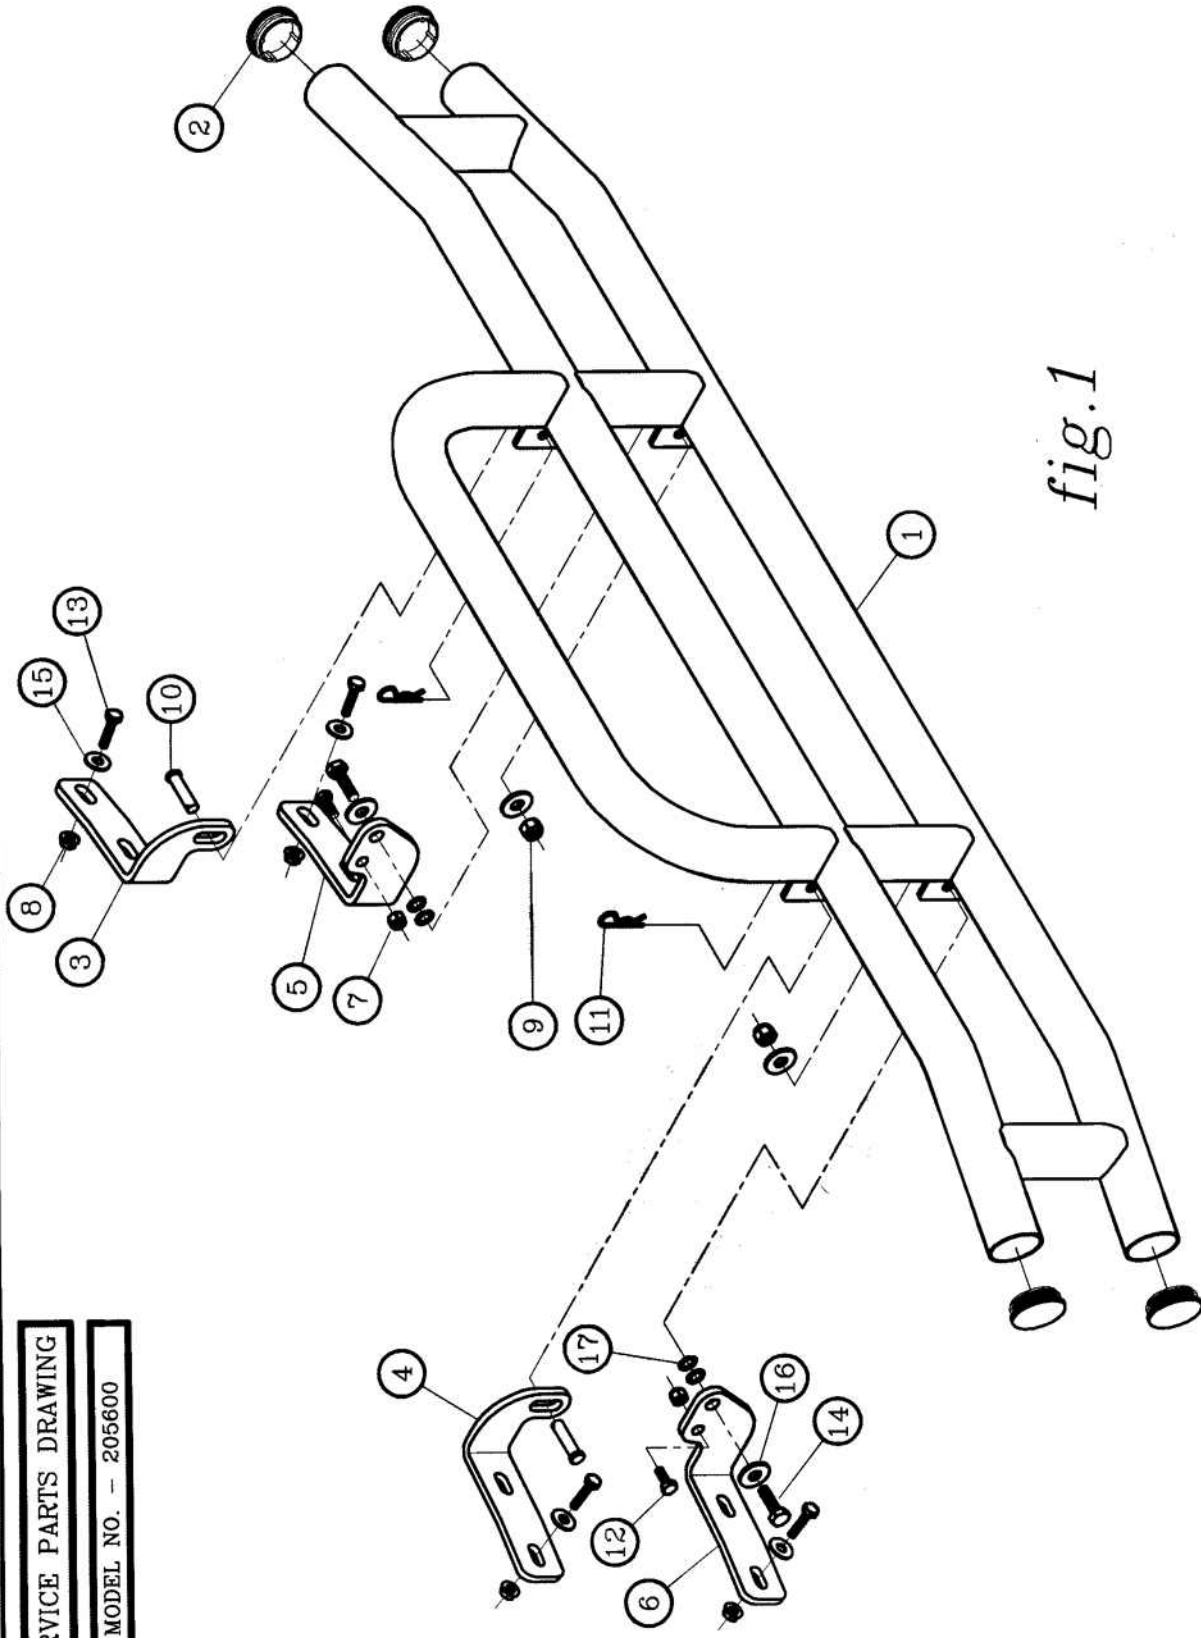

fig. 1
2. INSTALL THE UPPER MOUNTING BRACKET (ITEM #3 OR #4), USING THE 1/2-13 X 1.75 HEX BOLTS (ITEM #13), 1/2" FLAT WASHERS (ITEM #15), AND 1/2-13 SERRATED FLANGE NUTS (ITEM #8) AS SHOWN IN FIG. 1. HAND TIGHTEN ONLY AT THIS TIME, TO BE ADJUSTED LATER.
3. INSTALL THE LOWER MOUNTING BRACKET (ITEM #5 OR #6), USING THE 1/2-13 X 1.75 HEX BOLTS (ITEM #13), 1/2" FLAT WASHERS (ITEM #15), AND 1/2-13 SERRATED FLANGE NUTS (ITEM #8) AS SHOWN IN FIG. 1. HAND TIGHTEN ONLY AT THIS TIME, TO BE ADJUSTED LATER.